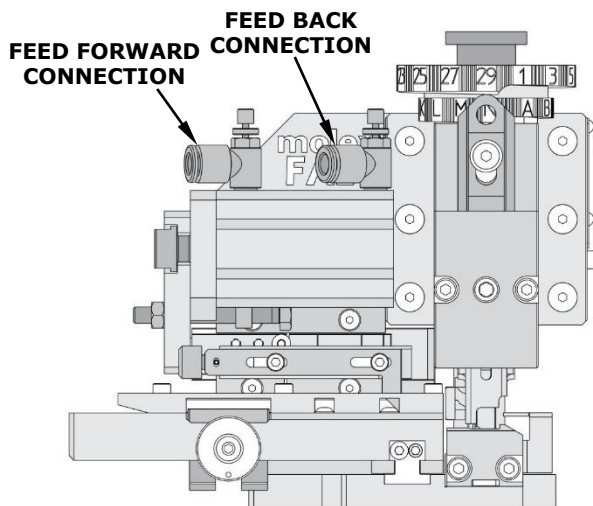

Figure 3
- Pneumatic tubes must be connected as shown in Figure 3. Tubes are typically connected so the terminal feed is forward when the applicator ram is up.